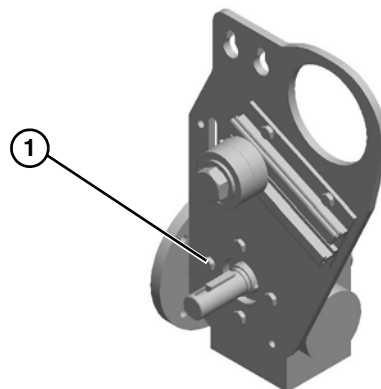

Figure 31
5. Remove four gear reducer mounting bolts (Figure 31, item 1). Remove gear reducer.